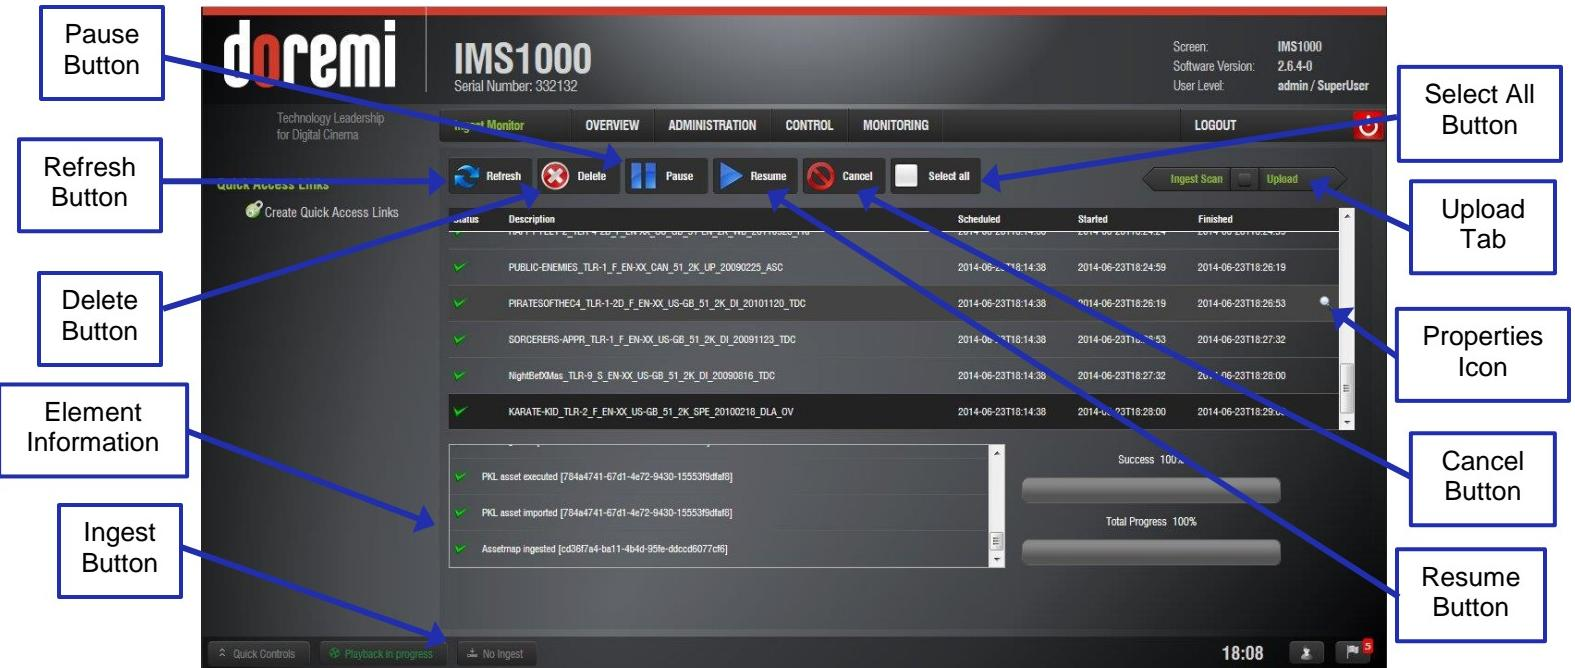
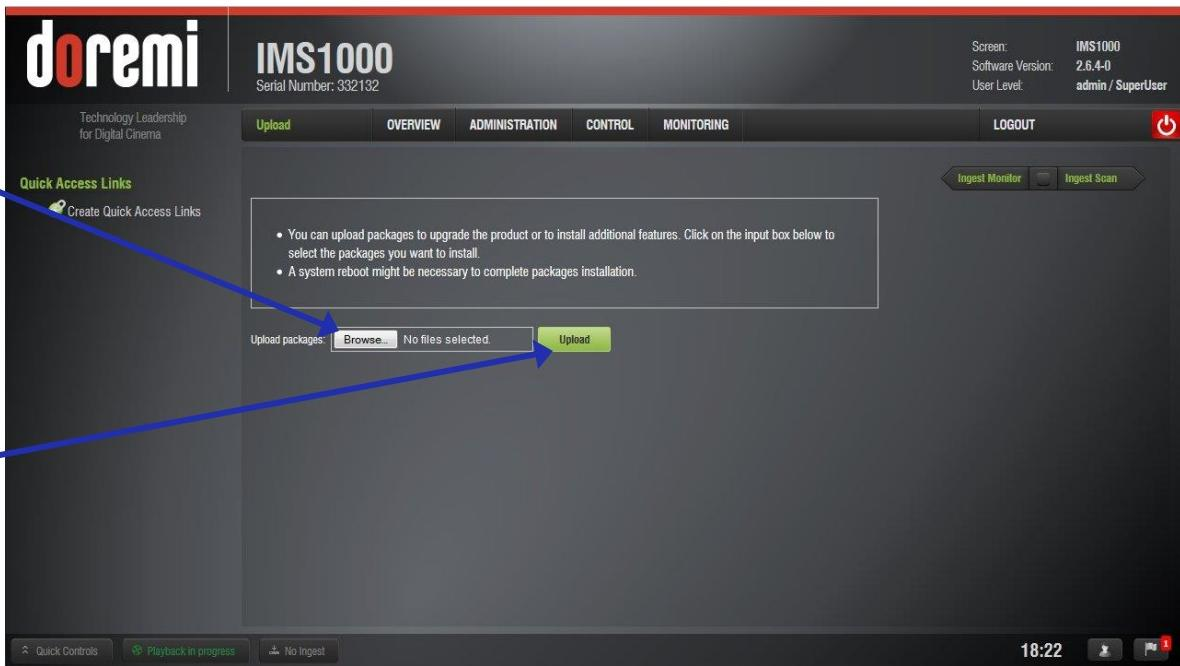

Figure 279: Ingest Progress
Figure 280: Ingest Upload
The IMS1000 allows the user to ingest content while the server is ingesting previously selected content. Click on the Ingest Monitor tab to see the progress of all the ingested items (Figure 279).
- To see an updated view of the Ingest Monitor will all recently ingested items, click on the Refresh button (Figure 279).
In the Ingest Monitor tab, the user has the option to delete, pause, resume, or cancel an ingest using the available buttons (Figure 279).
To select or unselect all items, use the Select All button (Figure 279).
To see more details for each element, highlight the item and click on the Properties icon on the right-hand side (Figure 279). The element information will be displayed at the bottom of the window (Figure 279).
The Ingest button in the bottom Notifications bar will alert the user to any ingest that is in progress (Figure 279).
Clicking on the button will open the Ingest Monitor tab that displays the ingest progress (Figure 279).
The Ingest Upload tab can be used to upload packages from your local network. To upload a package, go to Control → Ingest Manager → Upload (Figure 280). Alternatively, clicking on the green arrow on the right hand side of the GUI in the Ingest Scan and Ingest Monitor tab will also open up the Upload tab (Figure 279).
- Click the Browse button to locate the package to ingest (Figure 280).
- Click the Upload button when you have selected the file (Figure 280).